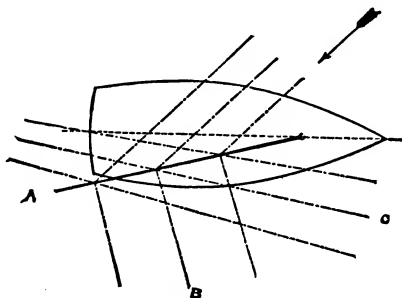

Fig. 3.
Upon looking at Fig. 3 you will see that the sail (A) is trimmed at such an angle with the keel that it will be just full of wind. The wind strikes it and glances off in the direction of the dotted lines.